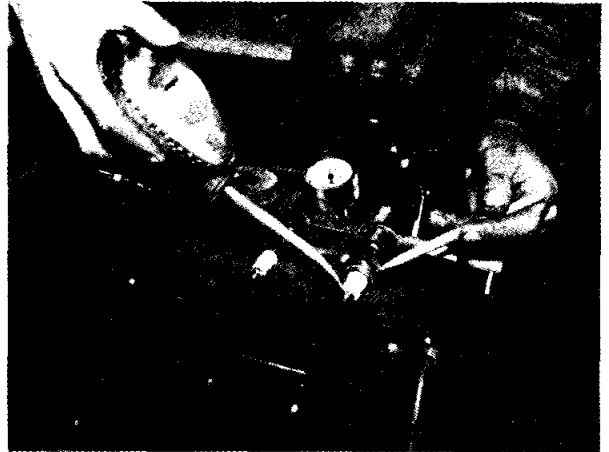

Fig. 45
- (i) Inspect for leakage after testing, by applying oil around the terminal (Fig. 45). Leakage is indicated by the presence of air bubbles, the intensity of which will serve to show degree of leakage. Leakage throws the plug out of its proper heat range, as the hot gas escaping has a "blow torch" effect on the plug, causing compression loss, pre-ignition, rapid electrode destruction and overheating of the insulator tip.